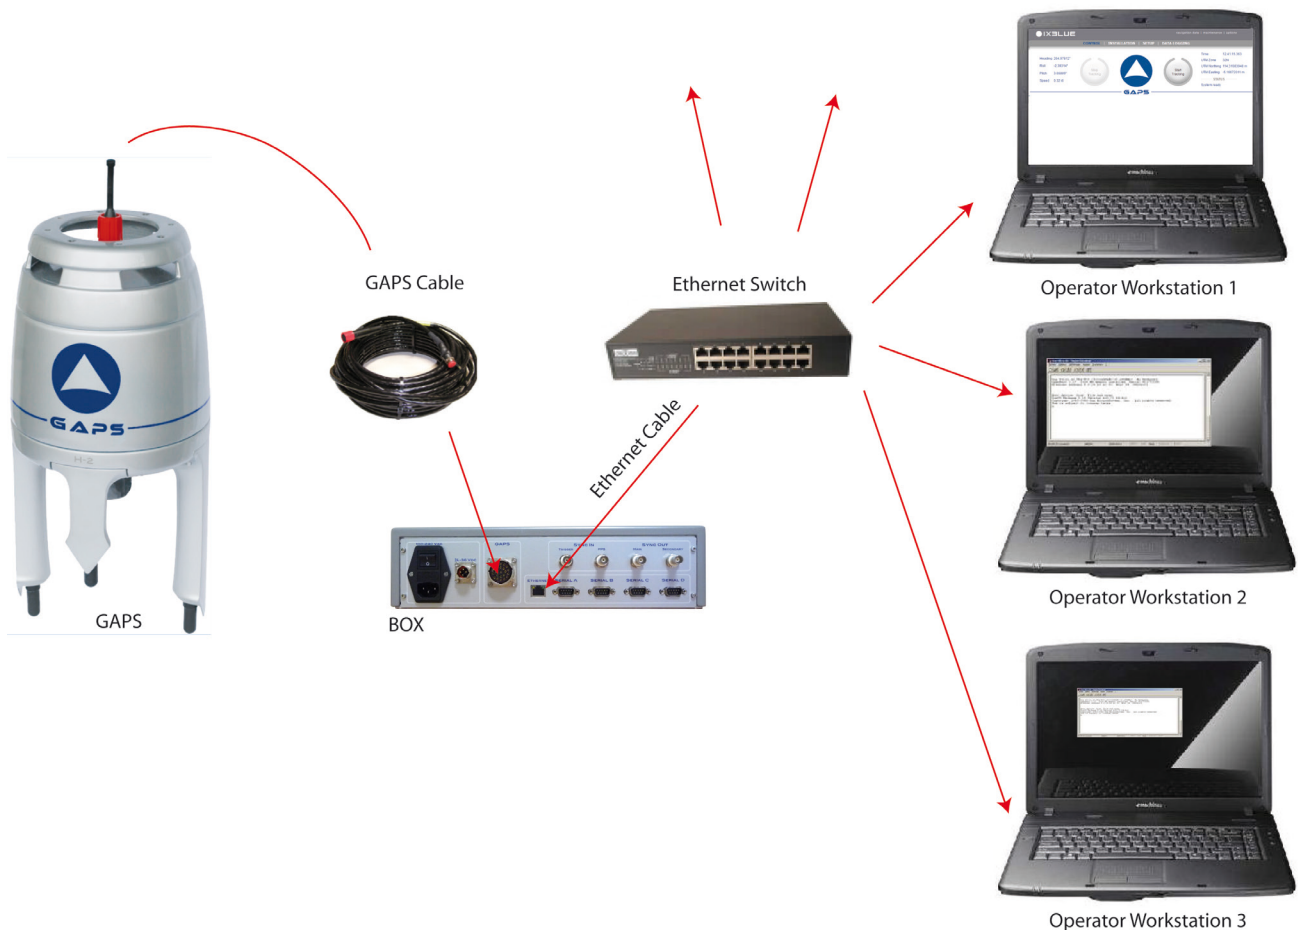

Figure 38 – GAPS connected to the local network
1.	Connect physically GAPS to the local network as shown on Figure 38. GAPS being in default network configuration that is not compatible with your local network, GAPS is not visible from any computer present in the network.